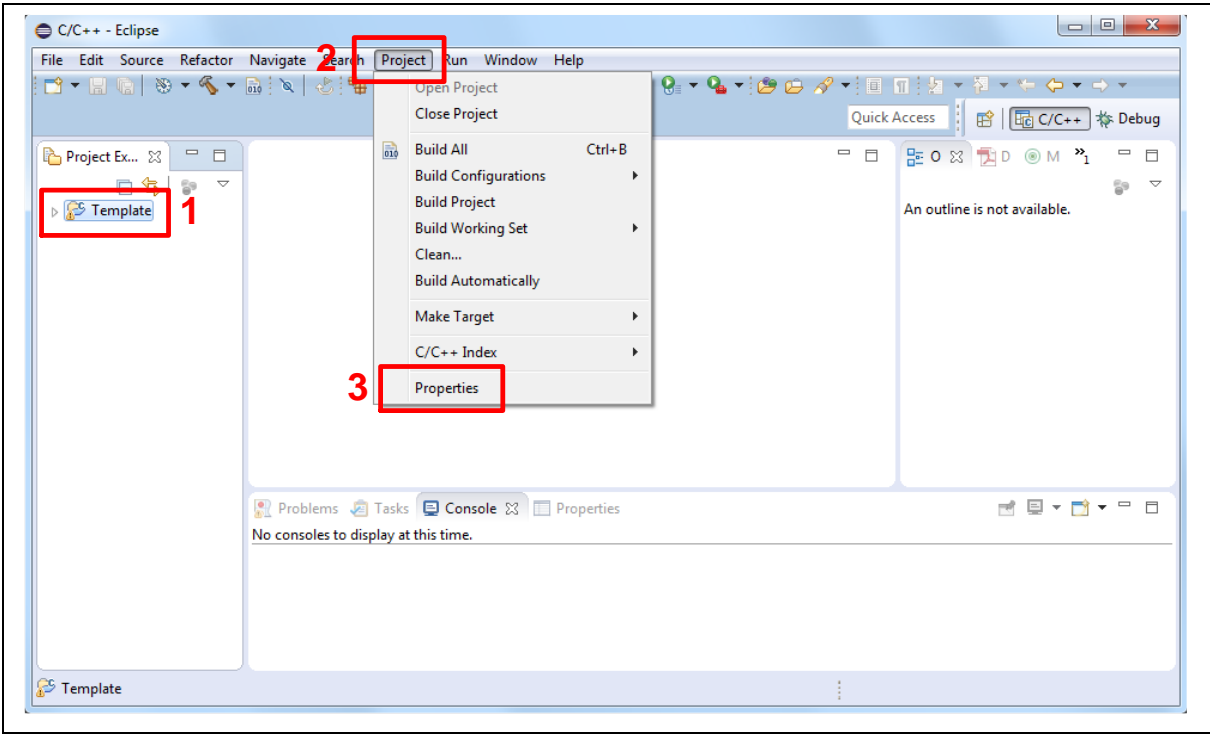
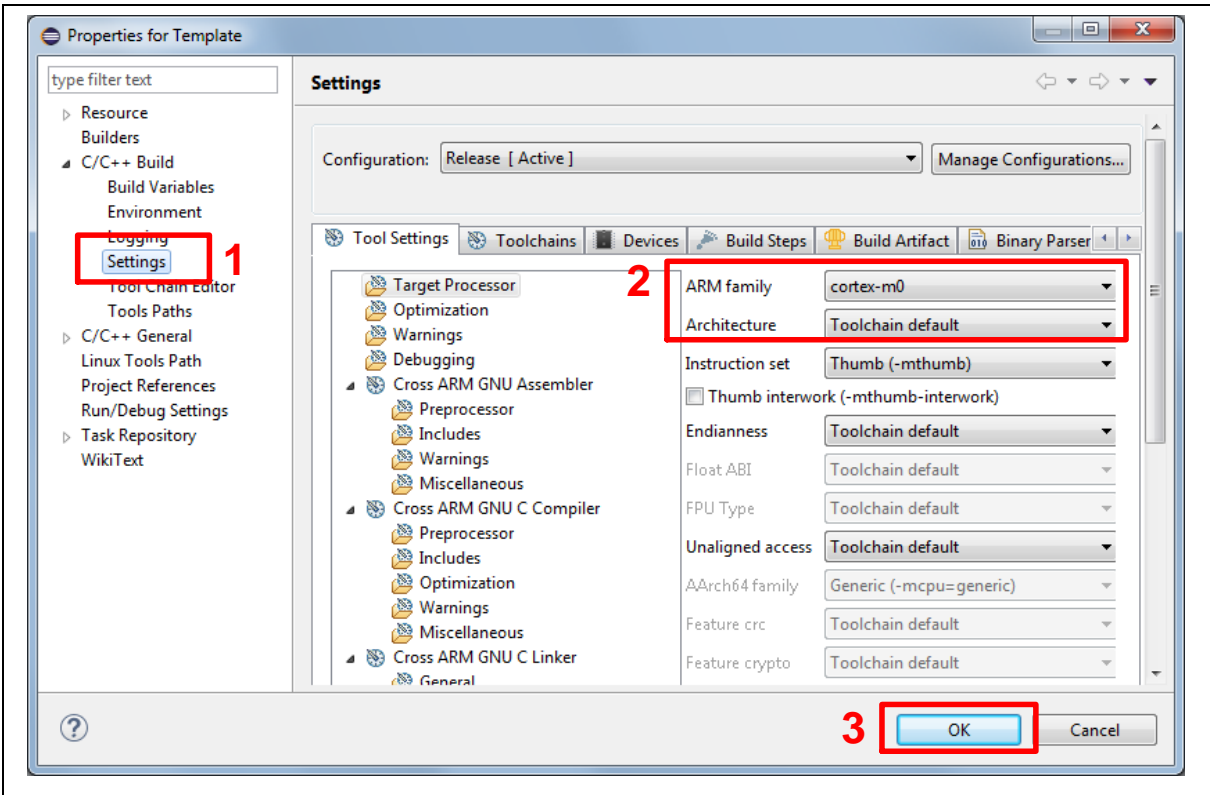

Figure 4-21 Open Project Properties Window
Figure 4-22 Project Properties Settings
3. Click the “Template” project and find the project properties as shown in Figure 4-21. Make sure the settings are the same as settings in Figure 4-22.